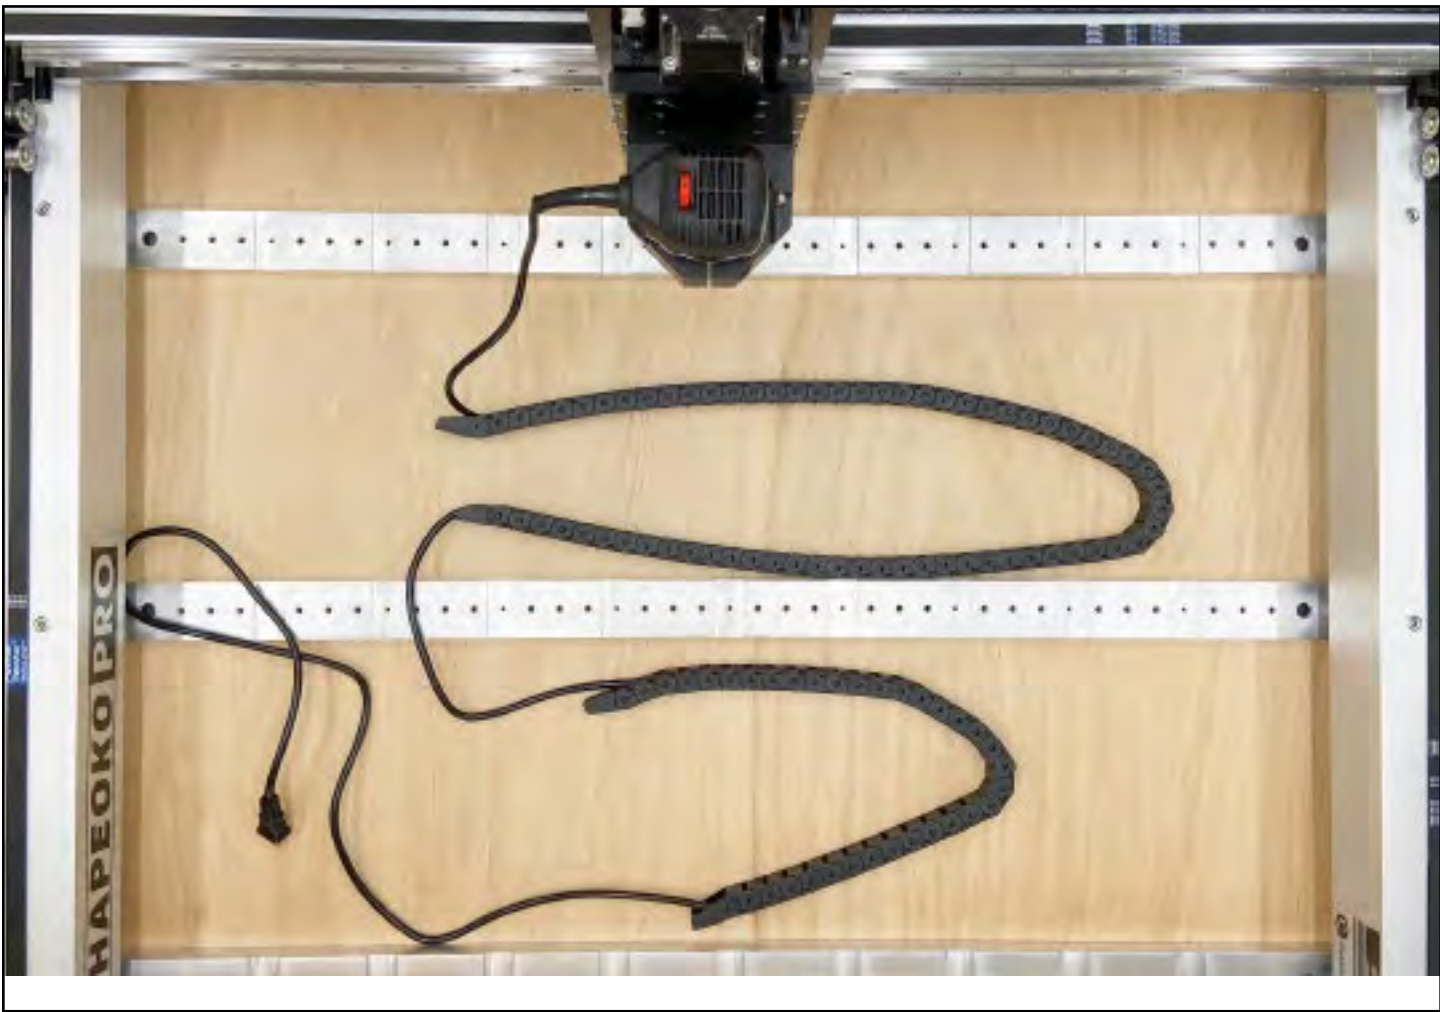

Figure 7-7
1. Insert the router power cable through both drag chains and close up the links. See Fig. 7-7.
2. Snap the tail links back onto both drag chains. See Fig. 7-7.